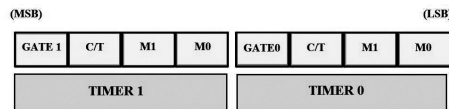

Figura 11.5: TMOD 2
**M1** Modo bit 1 (Figura 11.5)